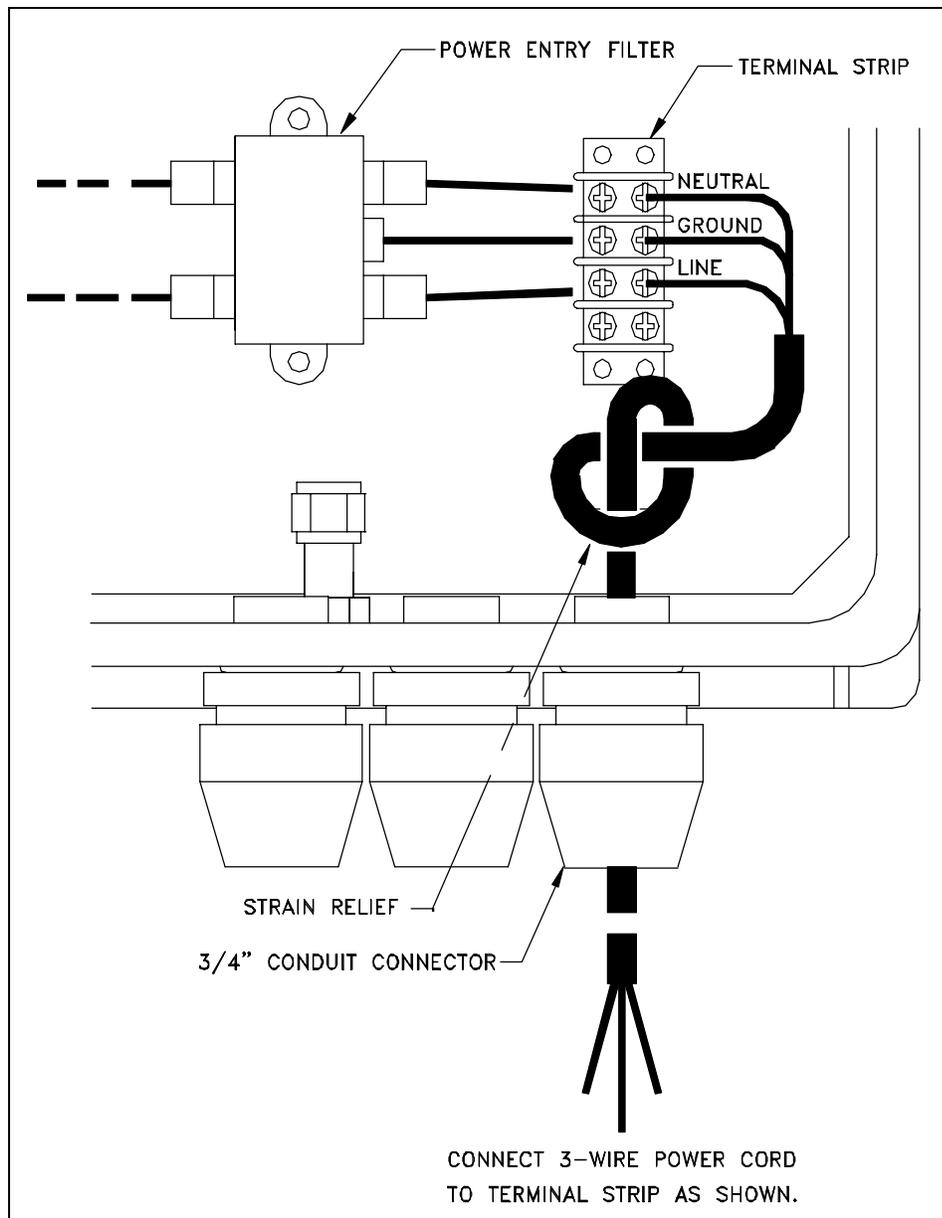

FIGURE 1.3 – NEMA 4X AC LINE POWER CONNECTION
5. Connect the line power to the power entry barrier strip shown in Figure 1.3.
Use a 3-wire grounded power cord and connect as shown in Figure 1.3